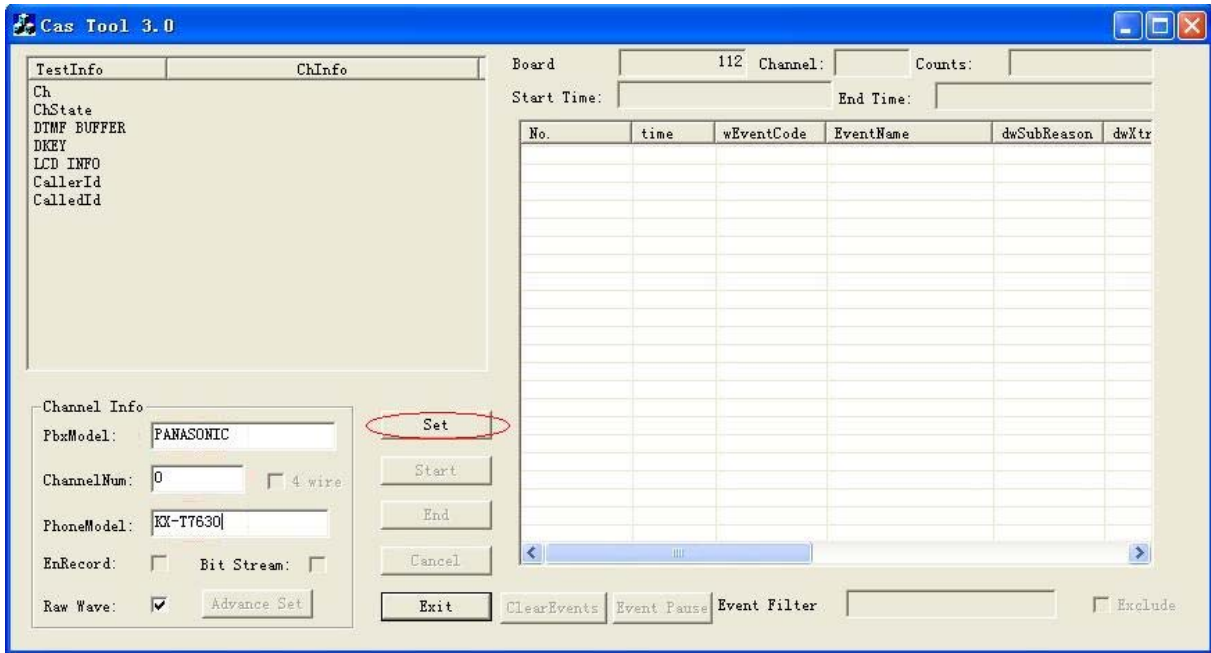

Figure 2-23
Step 3: Click on the button 'Set' as shown in Figure 2-23.